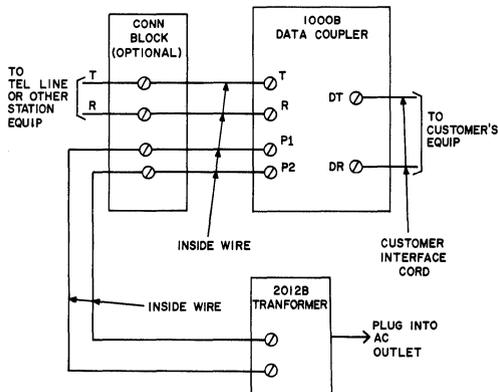

Fig. 4—Typical Data Coupler Connections with Associated Transformer
3.06 The data coupler and transformer may be connected in accordance with the typical wiring diagram shown in Fig. 4. The coupler may connect directly to a 2-wire private line, to the send pair of a 4-wire private line, or to other telephone equipment. Any associated apparatus which is required to complete the station arrangement should be installed as outlined in appropriate practices.